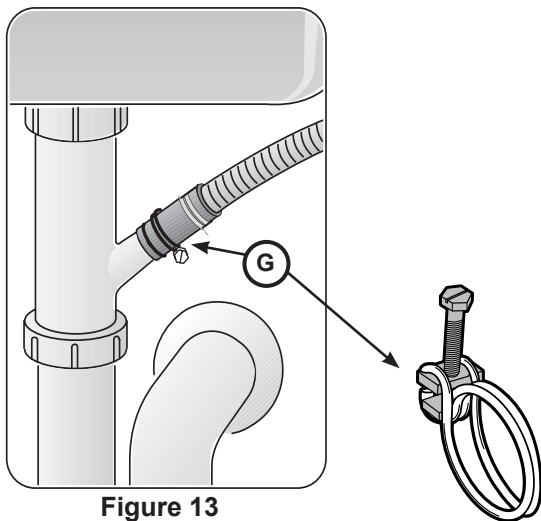

Figure 13
4. Use the clamp provided to attach the Rubber Drain Hose Adaptor to the house plumbing as shown in **Figure 13**.